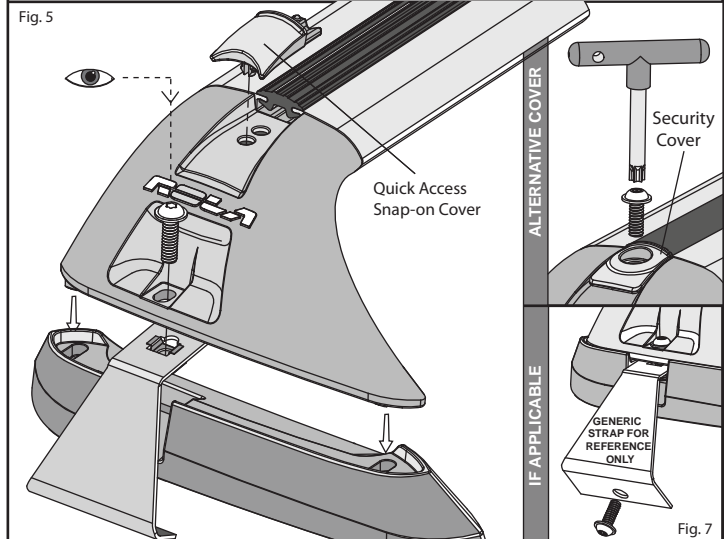

Fig. 8
6. Go around to the left side of the car and lift up the Cross-bar Assy away from the Mount Pad and roof body of the car. (Refer to Fig. 8)